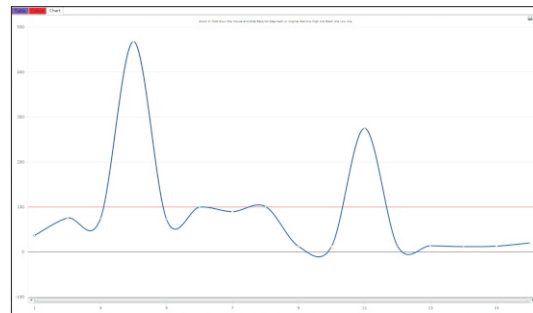

Figure 6-3
③ Click the left key of the mouse and draw to zoom in the area selected while click the EXIT/FULL DISPLAY on the right upper corner to zoom out.
④ Click the icon on the right upper corner to save/print current charts.
(3)Line chart(Figure 6-3):Identical with bar chart.